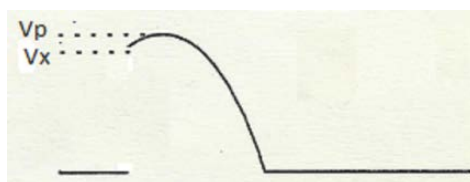

Figure 5. Firing angle waveform
7. Decrease the gate resistance such that the SCR is fired as shown in Figure 5.